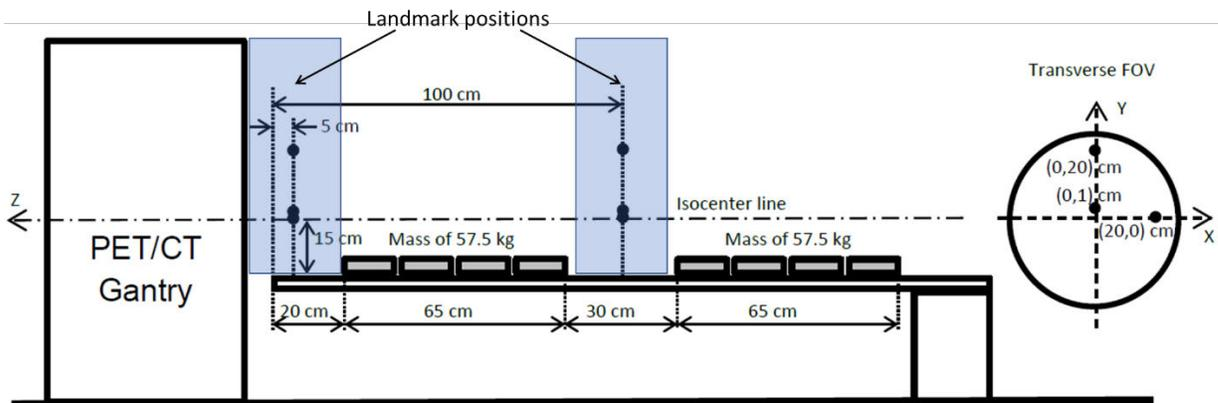

Figure 7.2: Phantom position in the scanner - blue boxes represent 2 different landmark positions. Make sure that the weights are not inside scan FOV.
1. Refer to Figure 7.2. Distribute the mass, such as weight plates or sandbags, totaling 57.5 kg evenly over 65 cm, from 20 cm from the tip of the table. If you use sandbags be careful not to get the sand in the tables sliding rails.
2. The remaining mass should be evenly distributed over 65 cm, between 115 cm and 180 cm from the tip of the table. Refer to Figure 7.2.